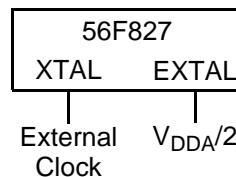

Figure 13. Connecting an External Clock Signal
The recommended method of connecting an external clock is given in **Figure 13**. The external clock source is connected to XTAL and the EXTAL pin is held $V_{DDA}/2$.
1. See **Figure 13** for details on using the recommended connection of an external clock driver.